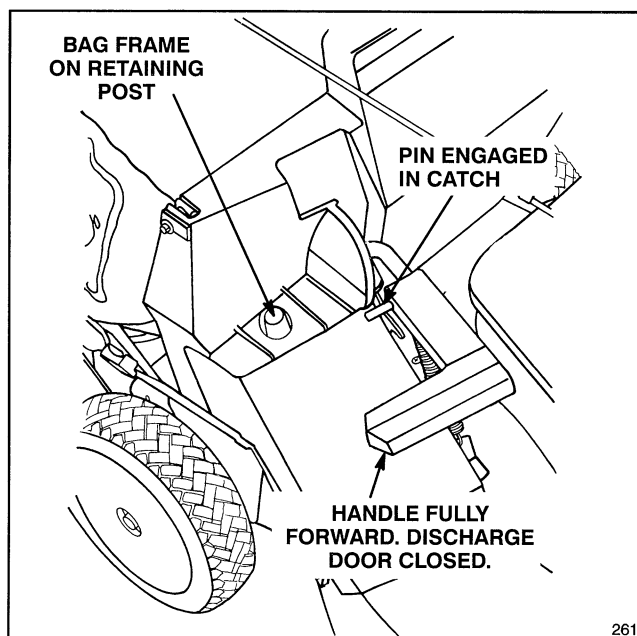

Figure 11
2. Ensure chute door handle is fully forward and pin is engaged in catch (Fig. 11).
3. **INSTALLING BAG**—Slide hole in bag frame onto retaining post on housing (Fig. 11) and set rear of bag frame onto support rod.
5. **EMPTYING BAG**—Stop engine and wait for all moving parts to stop. Raise discharge door handle and move it forward to engage the locking pin with catch (Fig. 11). Grasp handle at front and rear of bag and lift bag off mower. Gradually tip bag forward to empty clippings.